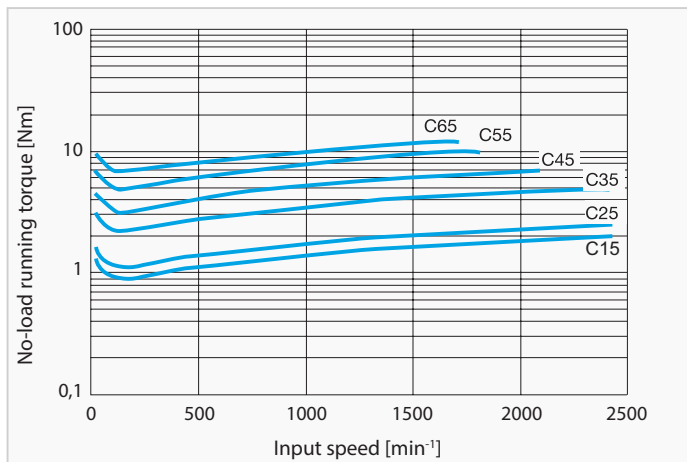

Fig. C-1 Input side no-load running torque
1. Fig. C-1 shows the average no-load running torque after gearbox is run in (not factory-new condition).